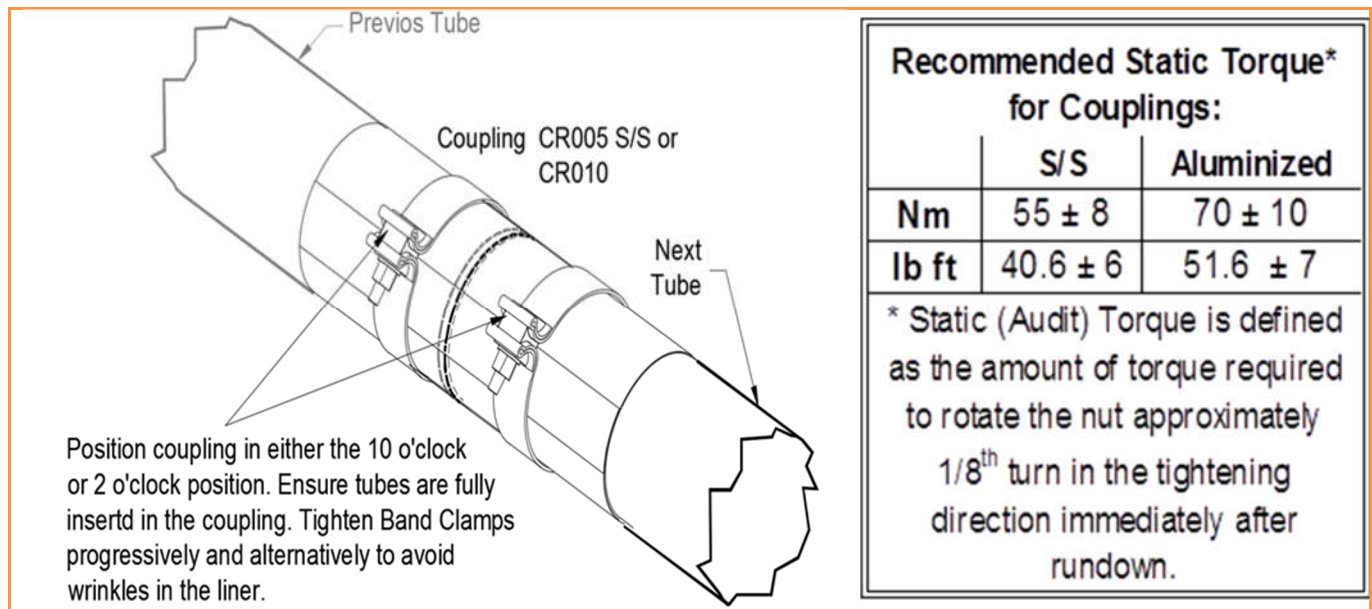

Figure 13: Tube Coupling Installation
5. Join consecutive pieces of Tube using Couplings. Insert one end of both Tubes fully into the Coupling. (Refer to Figure 13). These should be tightened as the Tubing is put in place, as it is more difficult to do so once the Reflector is installed. Tighten band clamps alternately to prevent buckling of the sleeve, set to Torque listed. Ensure that the weld seams on ALL Tubes are facing down.